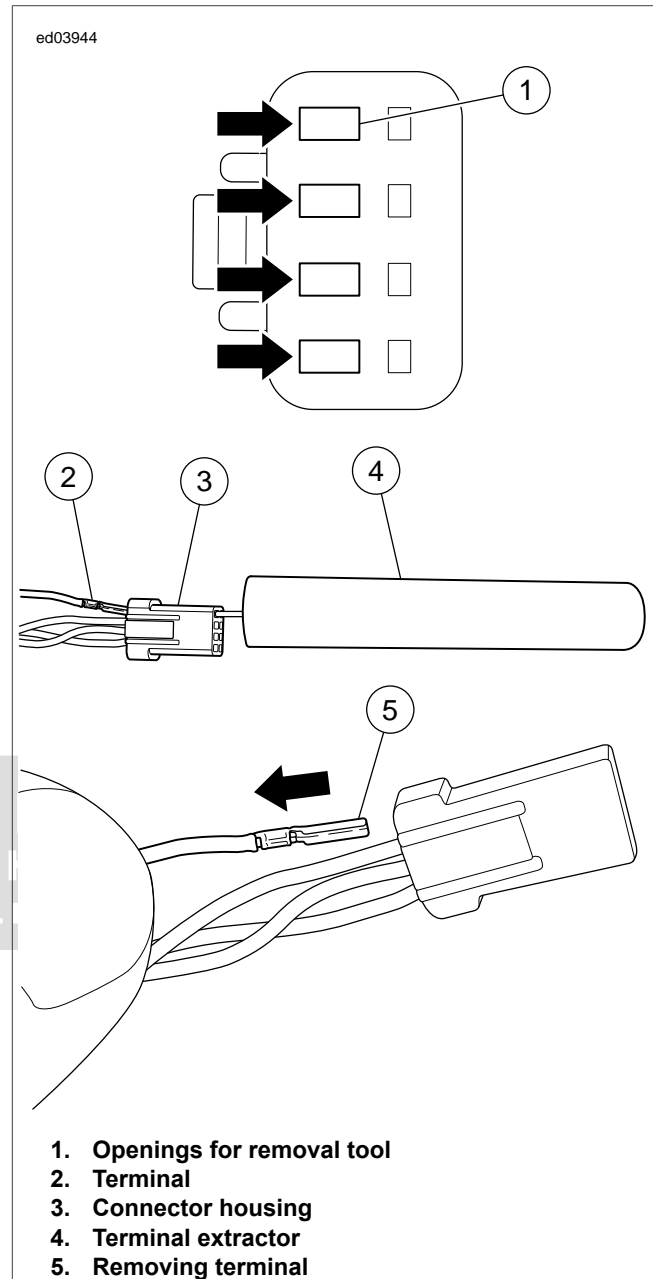

Figure B-19. Terminal Removal
1. See Figure B-19. Locate large openings on the front of the connector housing.